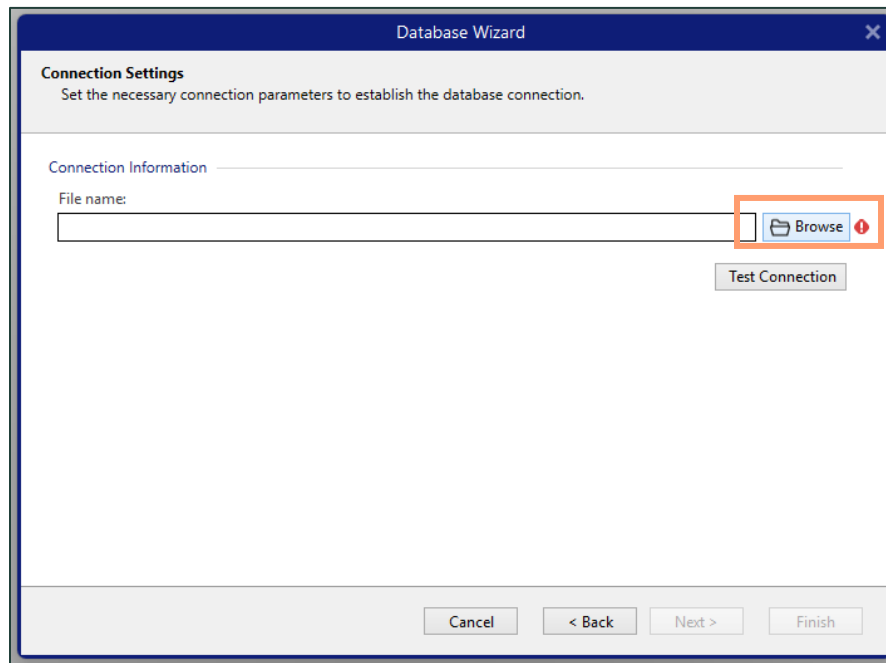

Figure 16: Database Wizard with Browse button to make a Database Connection
10. Click “Browse” and navigate to the downloaded CSV file of Retail IDs for the package you would like to print labels for— **see figure 16.**